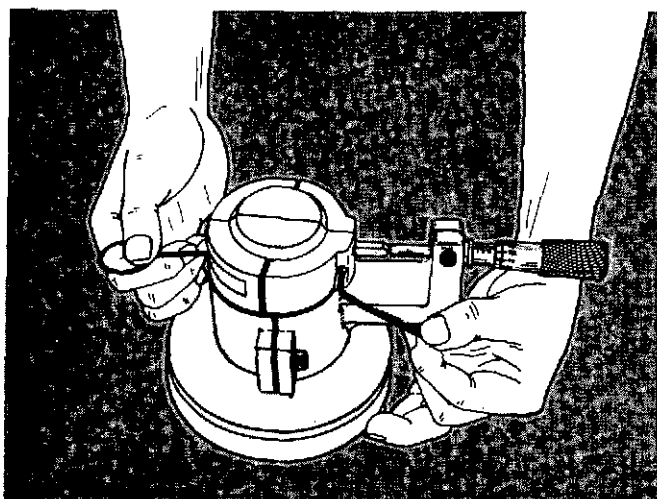

Fig. 1-40. Adjust The Cutting Tool.
9. Put the Part No. ST-1177-49 Cutter Key through the holes in the Toolholder and shaft. Push the cutting tool, with a minimum of force, against the micrometer spindle. To prevent damage to the tools, make sure you adjust the cutting tool and micrometer carefully. Tighten the retaining screw for the cutting tool, Fig. 1-40.